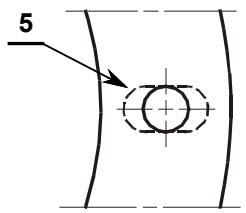

Fig. 7
- if necessary, widen the holes of the insulating gasket 5)(Fig. 7).